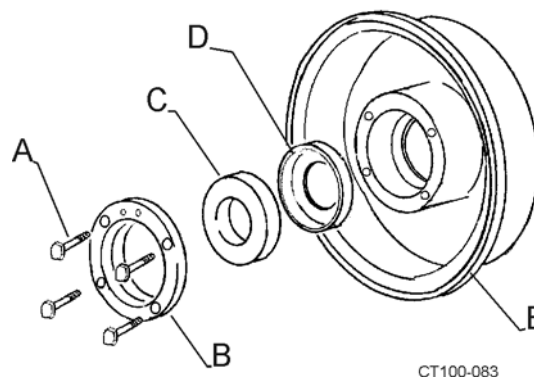
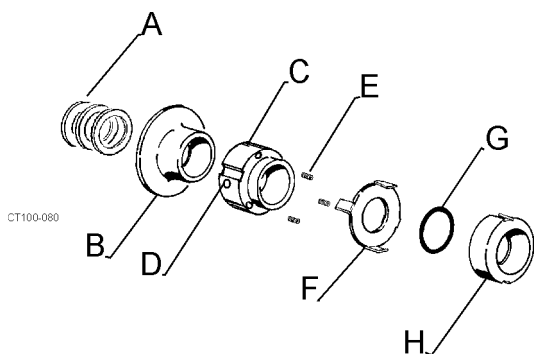

Figure 7 - Stationary Seal Assembly
Figure 9 - Type 1 Seal Assembly
1. Lightly lubricate both sides of the L-gasket (Figure 7, item D) with a sanitary lubricant and insert into the backplate seal cavity.
2. Place the stationary seal into the L-gasket. (Figure 7, items C and D).
3. Place the seat retainer over the stationary seal and secure retainer with four 1/4-20 x 1/2 inch hex head cap screws. (Figure 7, items B and A).
- Slide the tabbed washer (Figure 7, item F) over the impeller shaft and engage the tabs of the washer into notches on the outside of rotary seal. (Figure 9, items F and H).
- Install the three seal springs into holes in the spring retainer. (Figure 9, items C and E). Hold the springs in place with RTV silicone sealant.
- Slide the spring retainer over the impeller shaft until the slots in the spring retainer engage the drive tabs on washer and springs rest against the washer. (Figure 9).
- Lock the spring retainer in place by tightening the set screws. (Figure 9, item D).
- Install the deflector on to the impeller shaft. (Figure 9, item B).